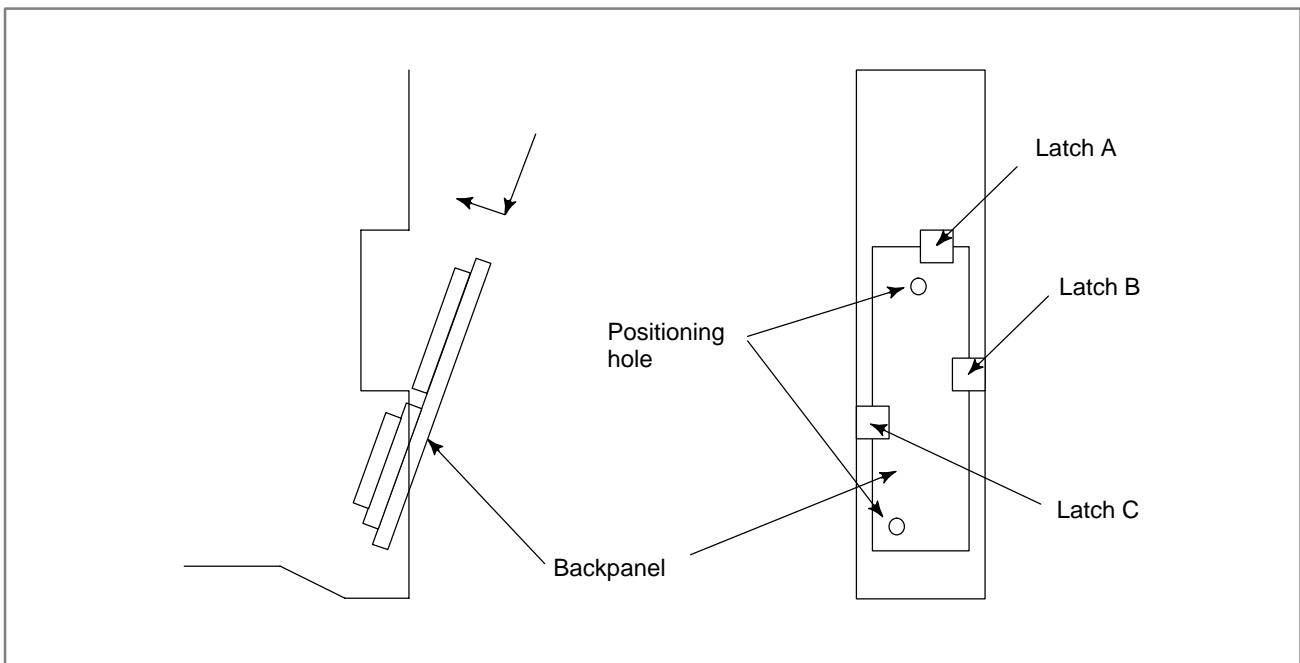

Fig. 2.6.6 Backpanel insertion and latch locations
- 2) Detach latch A from the backpanel. (See Fig. 2.6.6.)
- 3) Detach latches B and C also. (See Fig. 2.6.6.)